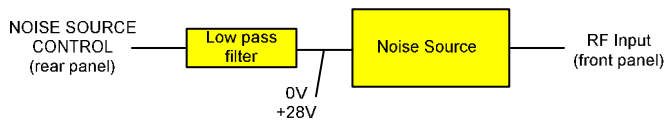

Fig. 2–32: Preparation for calibration
- Provide the voltage supply for the noise source by connecting it to the +28 V connector of the analyzer (labeled NOISE SOURCE CONTROL on the rear panel of the instrument) via a coax cable and the lowpass filter. Connect the lowpass filter between the noise source itself and the NOISE SOURCE CONTROL connector of the analyzer as shown in Fig. 2–32.